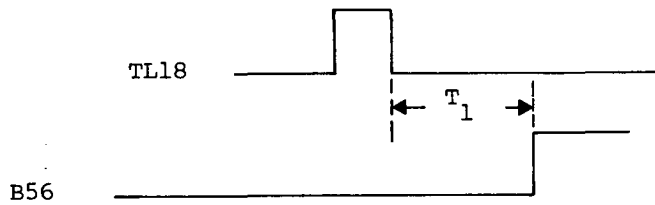

Figure 3
3. A minimum of 34 nanoseconds delay from pin TL18 going low until pins B56 goes high. See figure 3. The delay should be observed for both positive and negative going transitions of the clock. The value of capacitors C210 and C213 should be increased if the delay is too short.